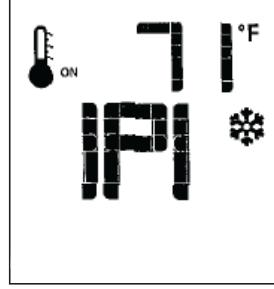
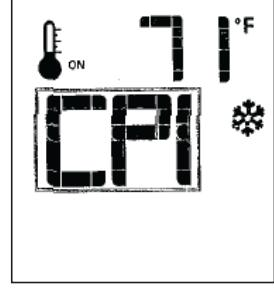

Figure 56. IPI is the default position.
Figure 57. CPI ON.
- With the transmitter in the OFF position, press the transmitter Mode key - IPI is the default mode. Fig.56. Press the Up arrow to index to the CPI icon and activate the Continuous Pilot Ignition mode. Fig. 57. Pressing the Down Arrow Key will return to Intermittent Pilot Ignition. A single "beep" will confirm reception of the command.